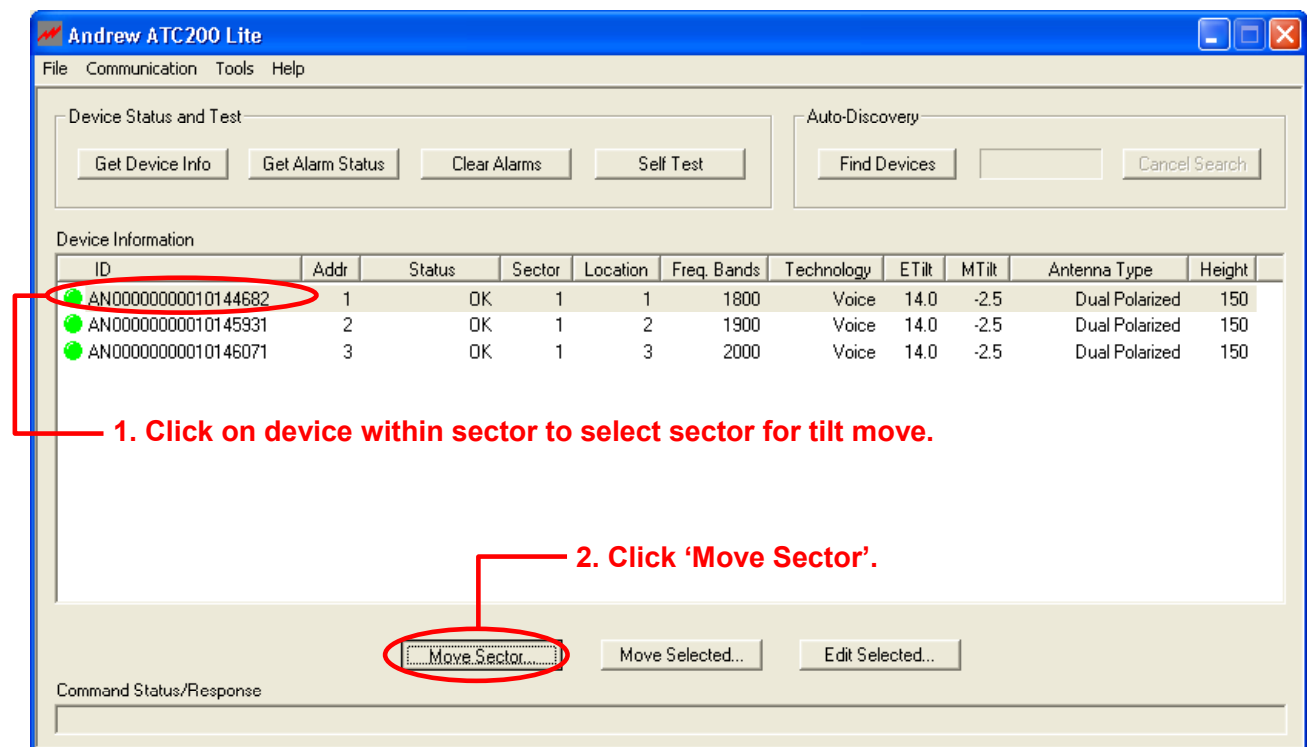

Figure 7-1. Selecting an Antenna Within a Sector.
1. Select a device from the 'Device Information' list that contains the Sector ID and tilt range representing the group to be moved (Figure 7-1).
2. Click 'Move Sector' (Figure 7-1).